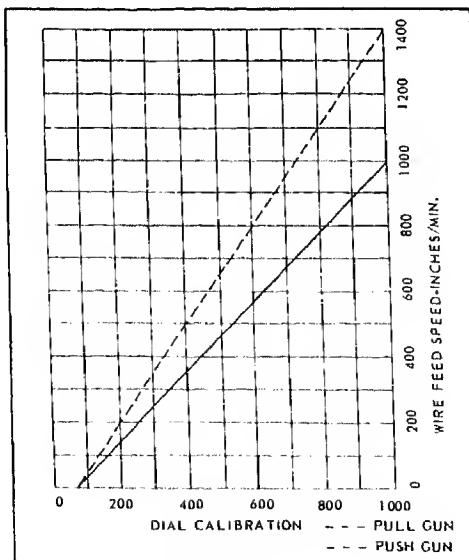

Fig. 10 Calibration Charts
- e. Check this output in inches-per-minute with optimum suggested by appropriate chart of Figure 10 for dial setting used in test.